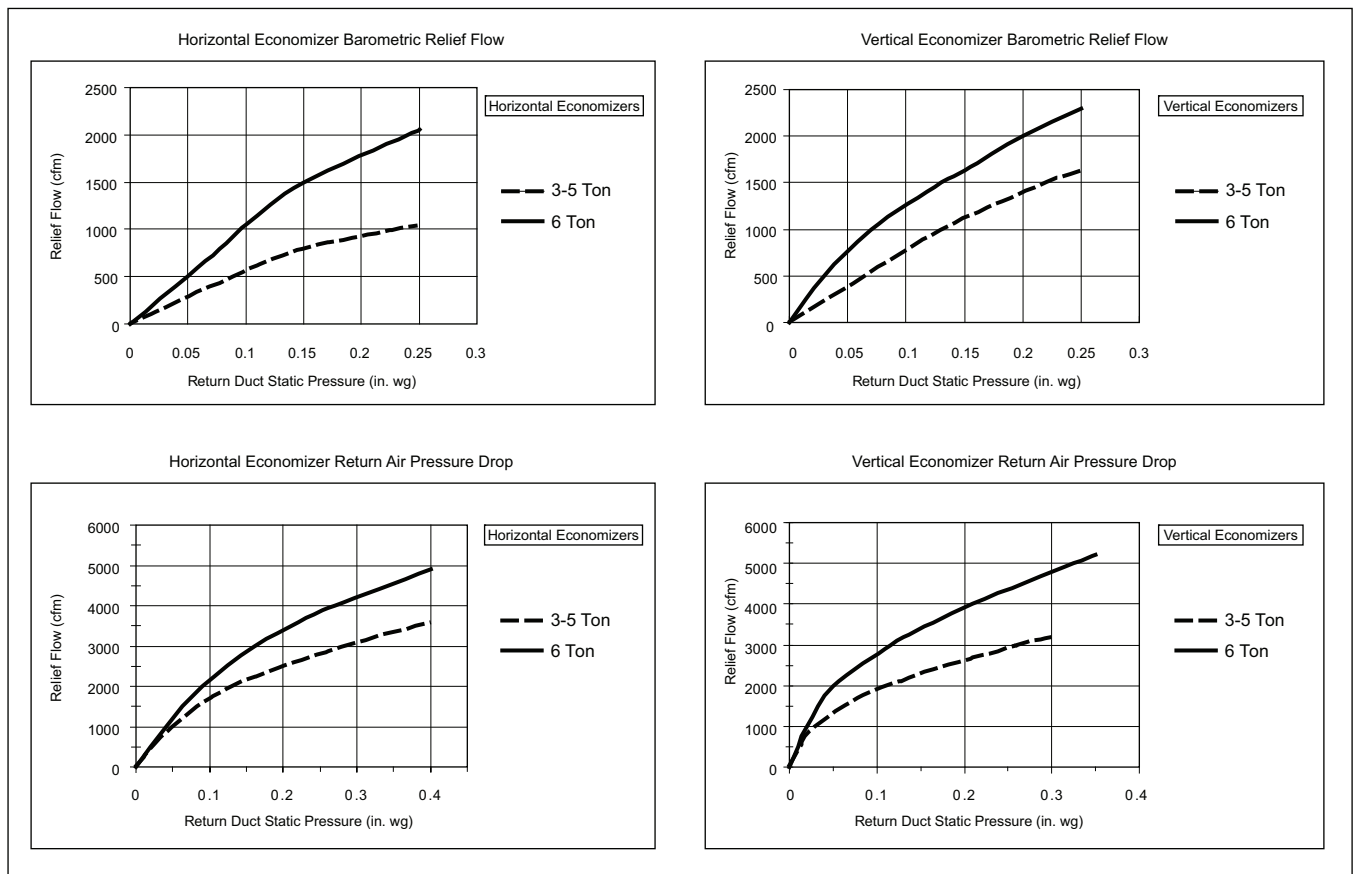

Fig. 75 — Outdoor-Air Damper Leakage
The standard controller is shipped from the factory configured for outdoor dry bulb changeover control. For this control mode, the outdoor temperature is compared to a selectable set point on the OAT sensor. If the outdoor air temperature is above the set point, the EconoMiSer IV will adjust the outdoor air dampers to minimum position. If the outdoor air temperature is below the set point, the position of the outdoor air dampers will be controlled to provide free cooling using outdoor air. When in this mode, the Free Cool LED next to the outdoor enthalpy set point (ABCD) potentiometer will be on. The changeover temperature set point is controlled by the DIP switches on the sensor. See Fig. 74 for the switch positions corresponding to the temperature changeover values. The ABCD potentiometer on the controller should be turned fully clockwise (CW) to the “D” position. See Fig. 75 for damper leakage.